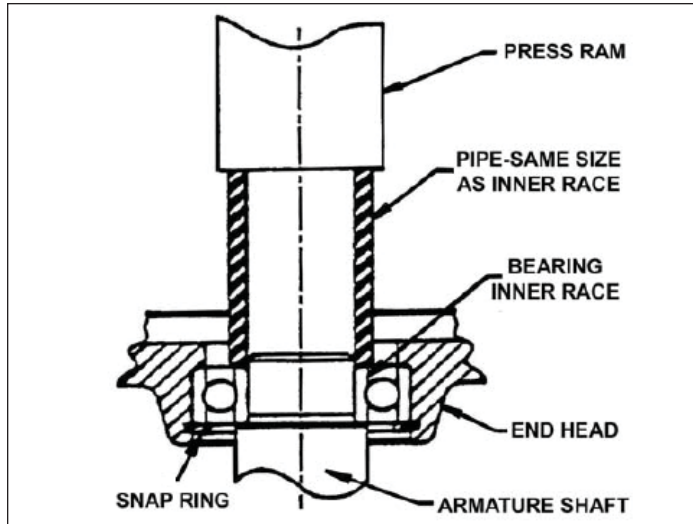
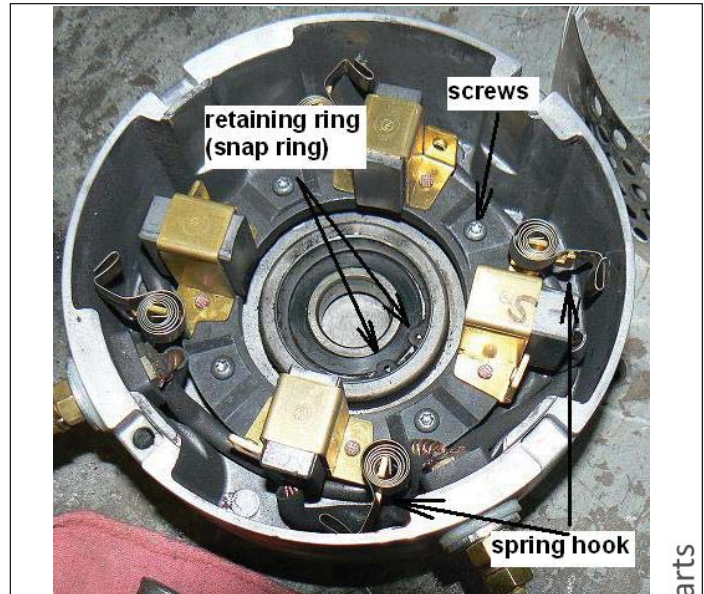

Figure 10-15. Press Bearing and End Cover onto Assembly
Figure 10-16. Spring Hooks for Brush Springs
1. Always use a new bearing when reassembling a motor. Press bearing into motor head. Press only against the outer race. See Figure 10-15. Install snap ring to retain bearing. Figure 10-16.
3. Position brush holder into motor head as shown in Figure 10-16. Make sure that the terminals for the brushes are loose and free.
6. Press motor head and bearing onto armature, pressing only against inner race of the bearing. See Figure 10-15.